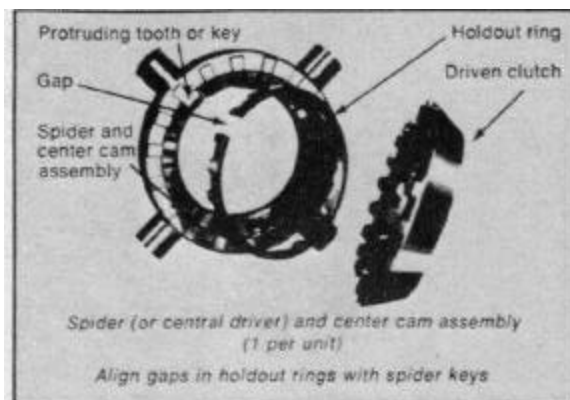

Figure 5-62
7. Place the other clutch (or clutch and holdout ring assembly if silent-type) on the spider again indexing the teeth and being sure again (if silent-type) that the spider-key and holdout ring slot are properly aligned as shown in Fig. 5-62 and 5-63. Assemble the spring retainer into the clutch with cup down, being sure it is properly seated. Place the second spring and side gear in position.